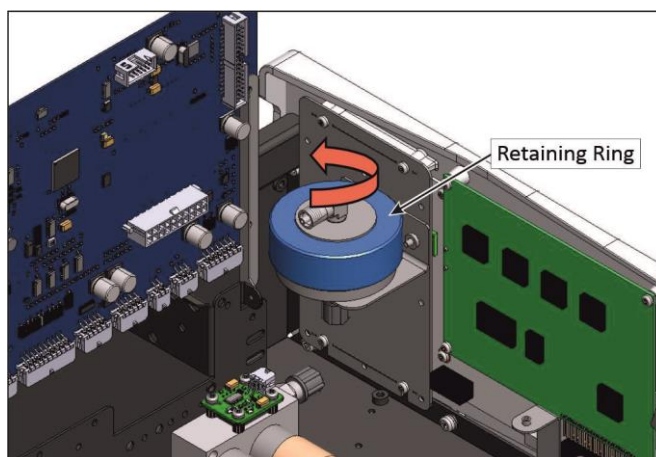

Figure 118 – Remove Retaining Ring
4. Refer to Figure 118. Remove the retaining ring by turning it counter-clockwise.